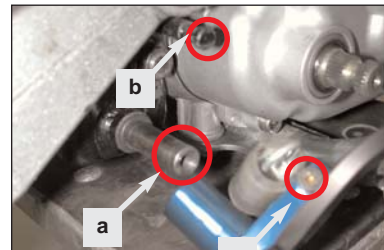

Figure 4
5. Slide brake lever assembly onto mounting pivot (a) and attach free end of spring to pin (b) shown in Figure 4. Set adjustment screw (c) so that brake lever is level with footpeg. When the appropriate lever position is reached, secure adjustment screw with locking nut. **Note:** Mounting pivot (a) must be straight. If mounting pivot is bent it can cause the brake lever to hit the engine casing.